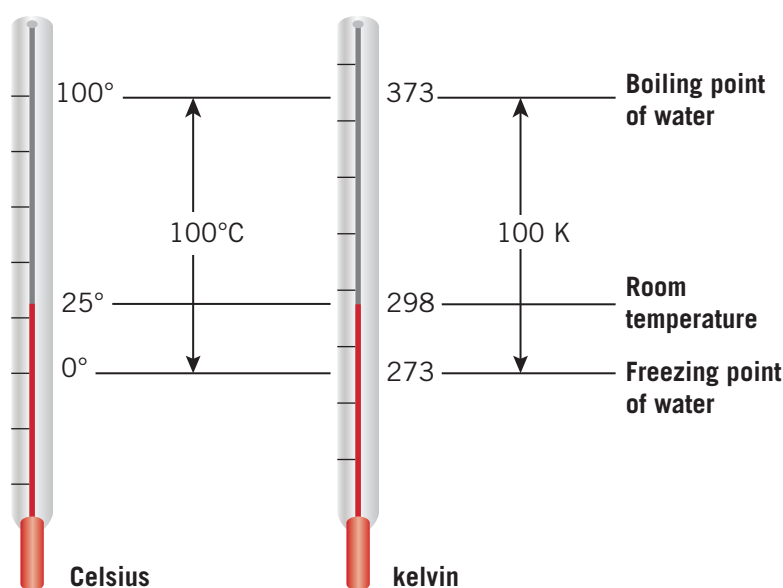

Figure 15A–2 A visual representation of how degrees Celsius and kelvin convert between each other
The temperature of gases is directly related to their energy, which is something we will learn more about in Unit 3. There are several different measures of temperature, but in this section we are going to focus on the units kelvin (K) and degree Celsius ($^{\circ}\text{C}$). When converting between units of temperature, the following common conversions, shown in Table 15A–1 and Figure 15A–2, are used.